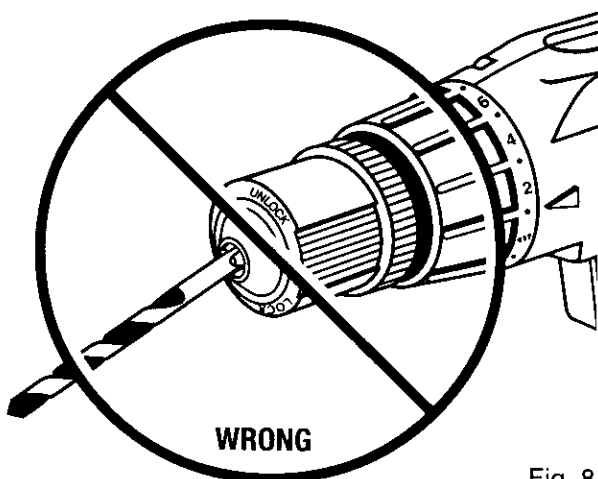

Fig. 8
**WARNING:** Do not insert drill bit into chuck jaws and tighten as shown in figure 8. This could cause drill bit to be thrown from drill resulting in possible serious personal injury or damage to the chuck.